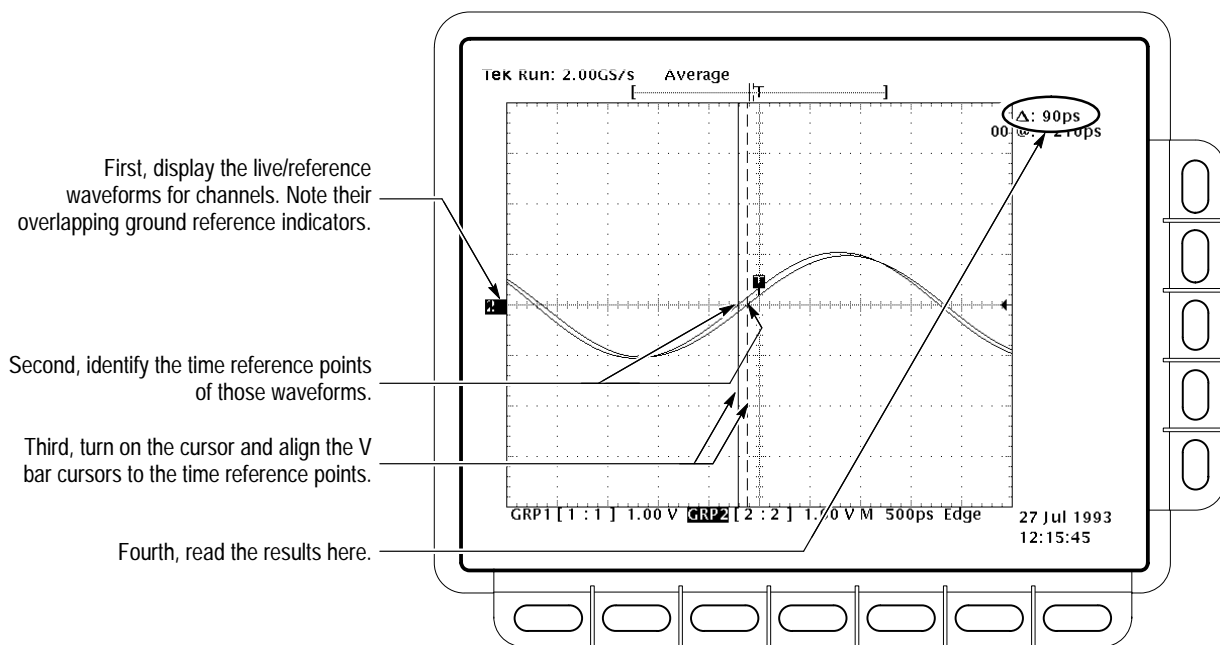

Figure 4-12: Measurement of Channel Delay
- e. Rotate the General Purpose knob to align one cursor to the *time reference point* of the left-most waveform edge and the other cursor to the *time reference point* of the right-most waveform edge. (Press **SELECT** to switch between the two cursors.) See Figure 4-12.